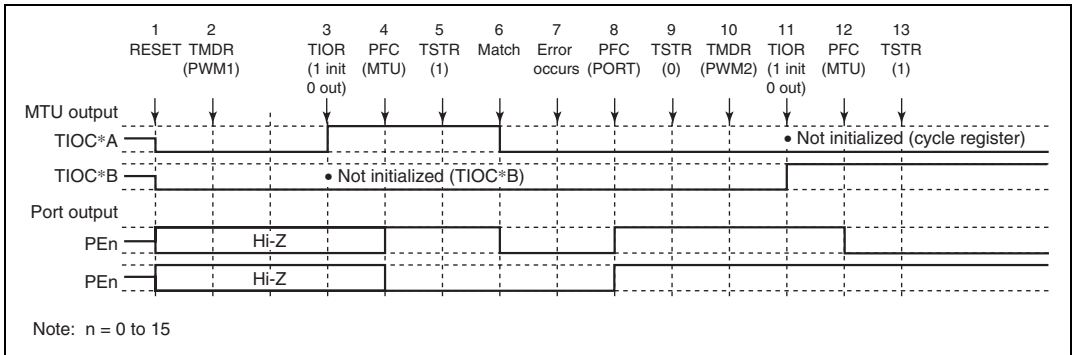

Figure 10.66 Error Occurrence in PWM Mode 1, Recovery in PWM Mode 2
(7) Operation when Error Occurs during PWM Mode 1 Operation, and Operation is Restarted in PWM Mode 2: Figure 10.66 shows an explanatory diagram of the case where an error occurs in PWM mode 1 and operation is restarted in PWM mode 2 after re-setting.